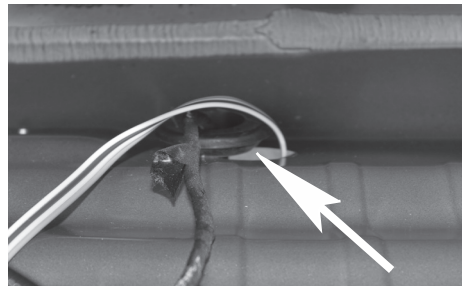

Figure 5
8. Cut cable ties on 4-Flat portion of harness. Route 4-Flat portion of RV harness with connector ends containing Green wire to grommet located in rear center wall of vehicle shown in **Figure 5**. Unseat grommet, make a slit in it and fit around 4-Flat wire. If so apply silicon around area to seal.